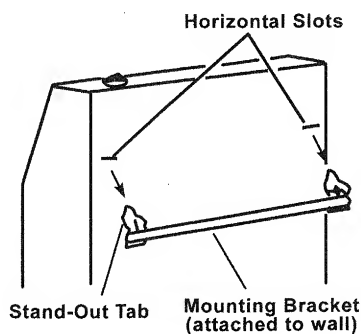

Figure 11 - mounting heater onto mounting bracket
1. Locate two horizontal slots on back panel of heater (see Figure 11).